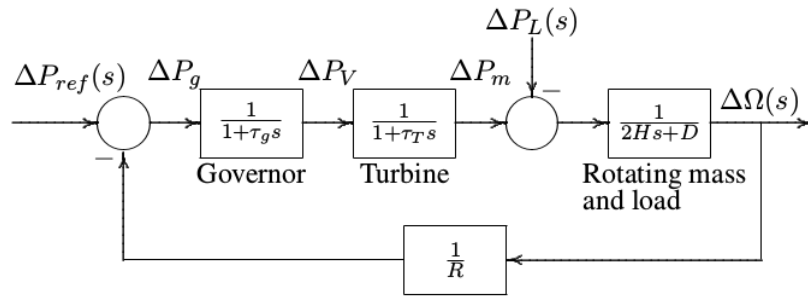

Figure 2: Frequency control system structure.
An isolated power station has a frequency control system as shown in Fig. 2, with the following parameters:
5. It can be shown that the control system in Fig. 2 is insufficient for adequate frequency control. How can the performance of a control system be measured? In other words, how can you determine whether a controller performs well or not? Then, how can performance be improved?